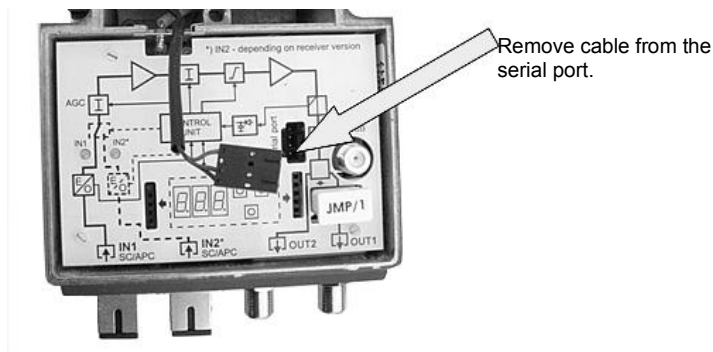

Fig. 8.11. Replacing a fuse in the ORB 729 - step 2.
- remove the TMM 729 remote monitoring module communication cable from the serial port - see fig. 8.11 (applicable to ORB 729 version with a remote monitoring module),
- Fig. 8.11. Replacing a fuse in the ORB 729 - step 2.